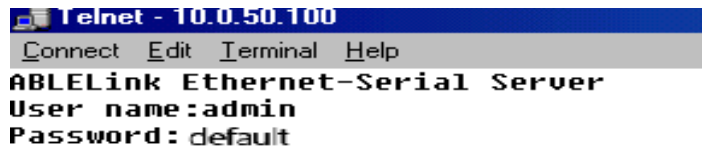

Fig. 8. Telnet to the system
- Enter in the “Telnet IP_address”.(For example, **Telnet 10.0.50.100**). The system then prompts for a password, the default password is default. (Fig. 8)